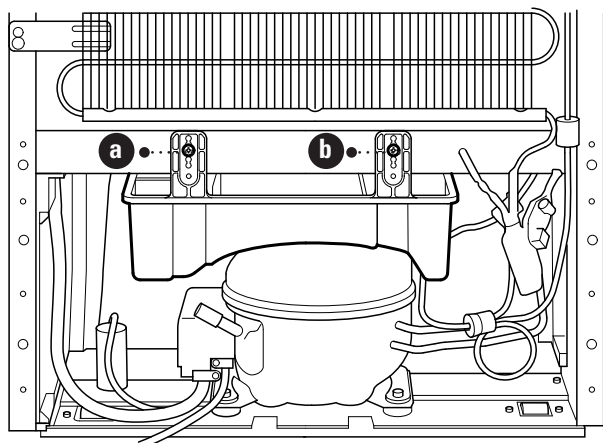

Figure 6
- 1 Remove the vaporisation container by unscrewing the 2 screws (a) and (b) (Figure 6)